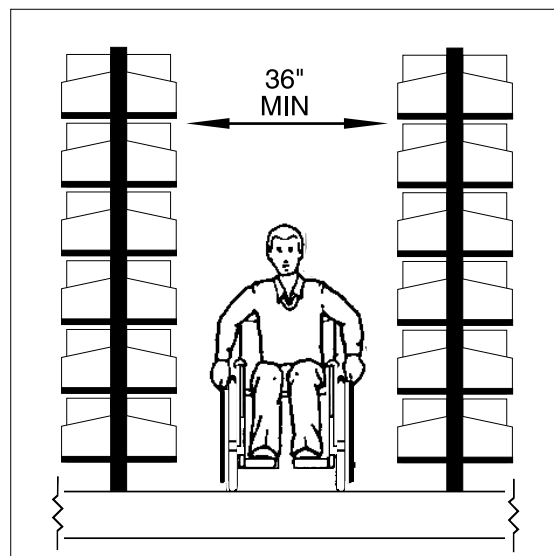

Figure 5. Unobstructed reach ranges can be applied to mobile storage. The controls must fall within a height range of 15–48 inches (380–1220 mm) from the floor.
If a person using a wheelchair must access forward to operate the mobile system, make sure that the controls fall in the required range, even with the additional rail height. For example, the buttons controlling movement in Spacesaver electric systems are at a height of 44 inches (1118 mm) (Fig. 5); the mechanical control is within the access guideline at the center of its hub, but the top spoke may require assistance.
Powered controls are the easiest to operate and ensure accessibility to people with almost any type of physical disability. The control buttons should be at least 3/4-inch in (19.06 mm) diameter (Fig. 5). Instructions for operation should be posted next to the controls.
**Signage** — on mobile systems designed for access to people with disabilities should include instructions for operating the systems and a list of carriage contents (Fig. 5). In addition, everyone who will be using the mobile system should receive an orientation on its use and safety features. We recommend positioning the signage adjacent to the controls for easiest access.